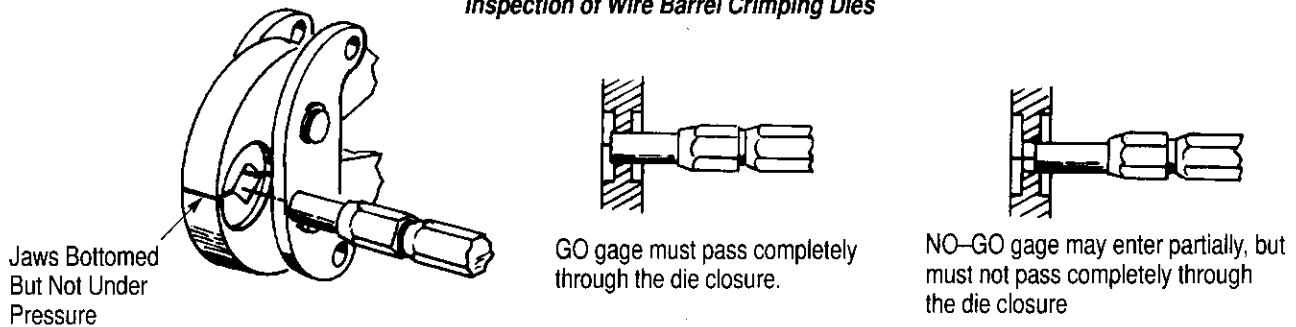

Figure 12
4. Select the correct plug gage. Hold the GO element of the gage in straight alignment with the die closure and carefully try to insert, without forcing. See Figure 12. The GO element must pass completely through the die closure.
5. Try to insert the NO-GO element. The NO-GO element may enter partially but must not pass completely through the die closure. See Figure 12.